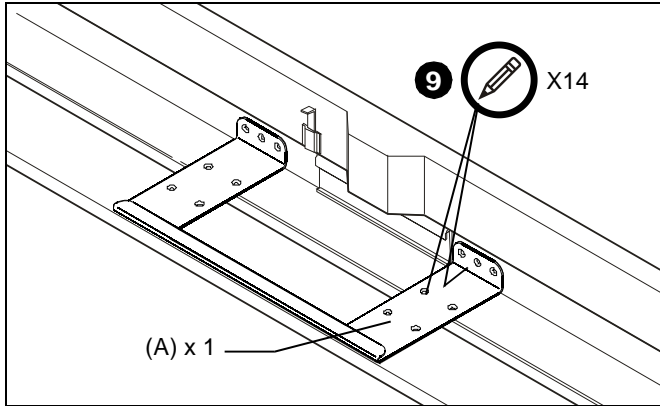

Figure 5
9. While holding retro bracket (A) in place, mark each of 14 mounting holes. (See Figure 5)